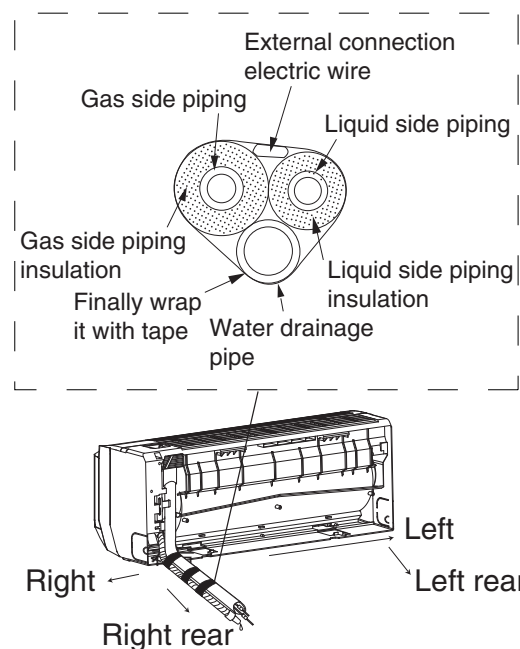

Fig.21
(As show in Fig.21)
- Connect the refrigerant tubing to the outdoor unit. (After performing a leak test on the connecting part, insulate it with the tubing insulation. (Fig.21) Also, refer to Pg 28, (connecting tubing between indoor and outdoor unit).